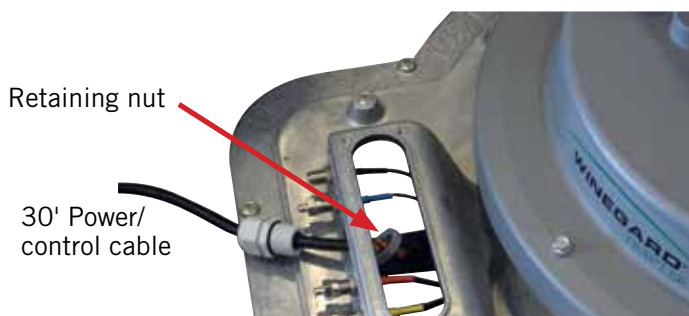

Figure 19
B) If you had to remove the GPS cable, feed the GPS cable through the exterior GPS nut and reconnect it. Once connected tighten the exterior GPS nut (Figure 19).